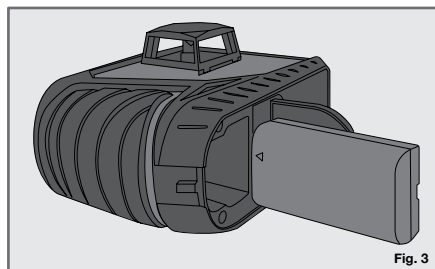

Fig. 3
- Open the battery cover door and insert the battery tray (Fig.3).